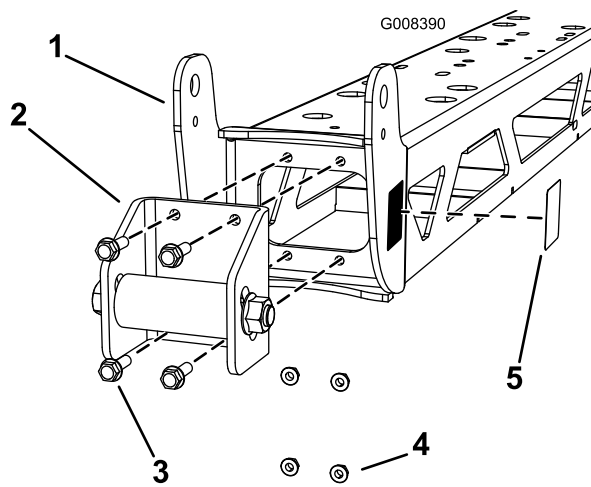

Figure 3
2. Install the stops to the frame using 4 bolts (5/16 x 1 inch) and nuts (5/16 inch) as shown in (Figure 3).
3. Install a decal 114-9576 as shown in Figure 3.